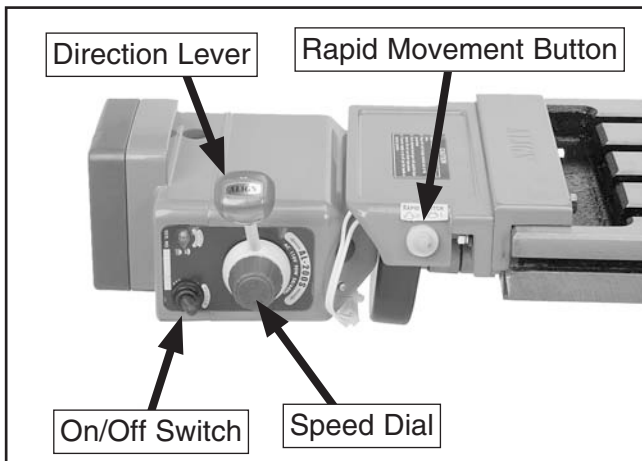

Figure 43. Power feed features.
- Rotate the speed dial (**Figure 43**) to the slowest speed, then turn the direction lever to the desired direction of travel.